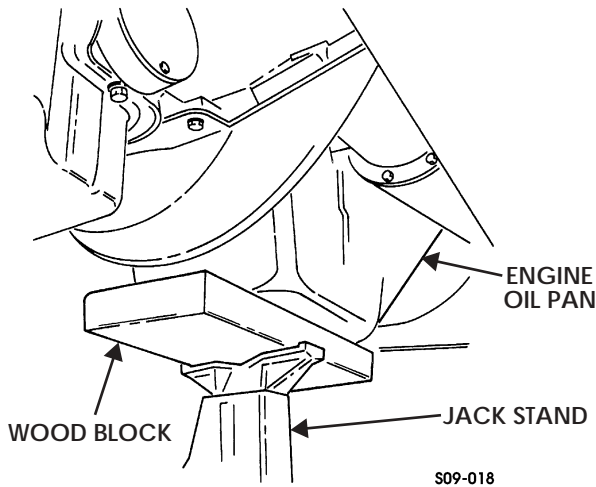

Figure 9-30: Engine Oil Pan
3. Support engine under engine oil pan with wood block and jack stand (Figure 9-30).
2. Remove wood block and jack stand from under engine oil pan (Figure 9-30).